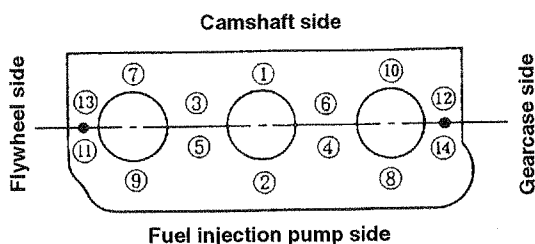

Figure 10: 3 Cylinder Head Torque Sequence
4. Tighten head bolts with a torque wrench in the order shown in figures 10 and 11. Tighten bolts evenly in 2 or 3 passes, ending at the specified torque in final pass.